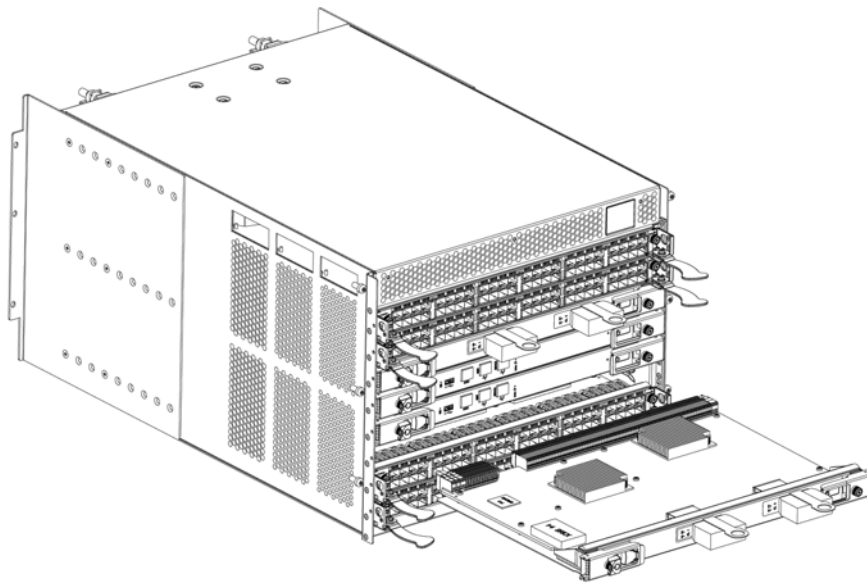

FIGURE 1 Core switch blade (CR4S-8)
2. Power off the blade by sliding the slider switch in the left ejector to the right to the off position (Figure 1).
5. Lever open both ejector handles simultaneously to approximately 45 degrees and pull the core switch blade out of the chassis (Figure 1).